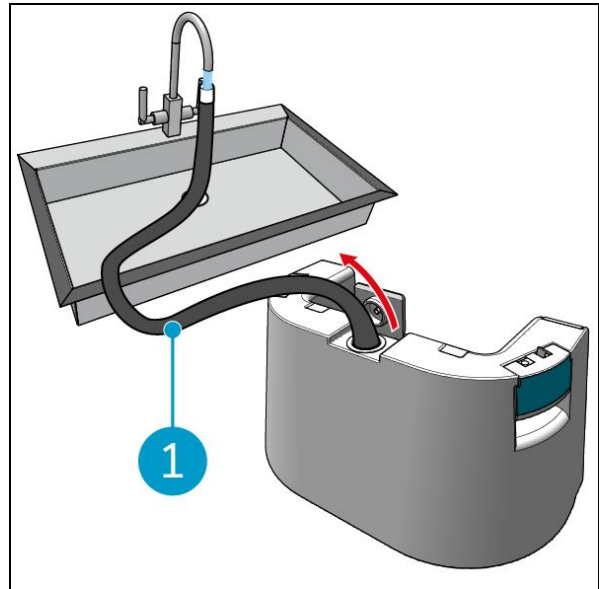

Figure 15
4. Pull out the black filling hose (Figure 15, pos. 1).
5. Completely fill the clean water tank with clean water, see Figure 15.